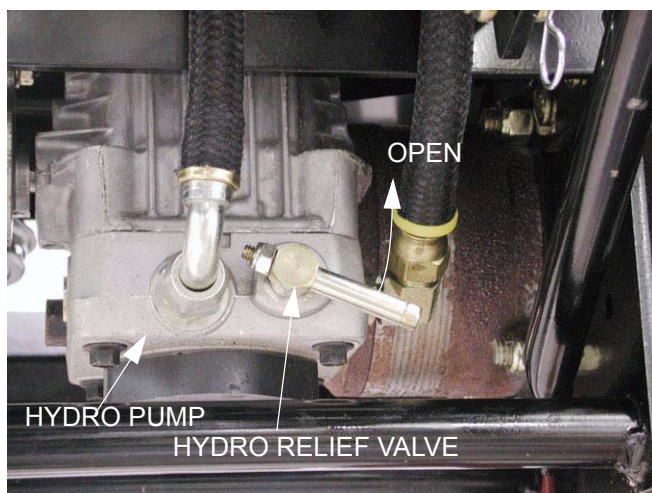

Figure 3.6
- 3.6. To check for brake drag, open the the relief valve on each hydro pump. With the parking brake released, both wheels should rotate with hand pressure. See Figure 3.6.